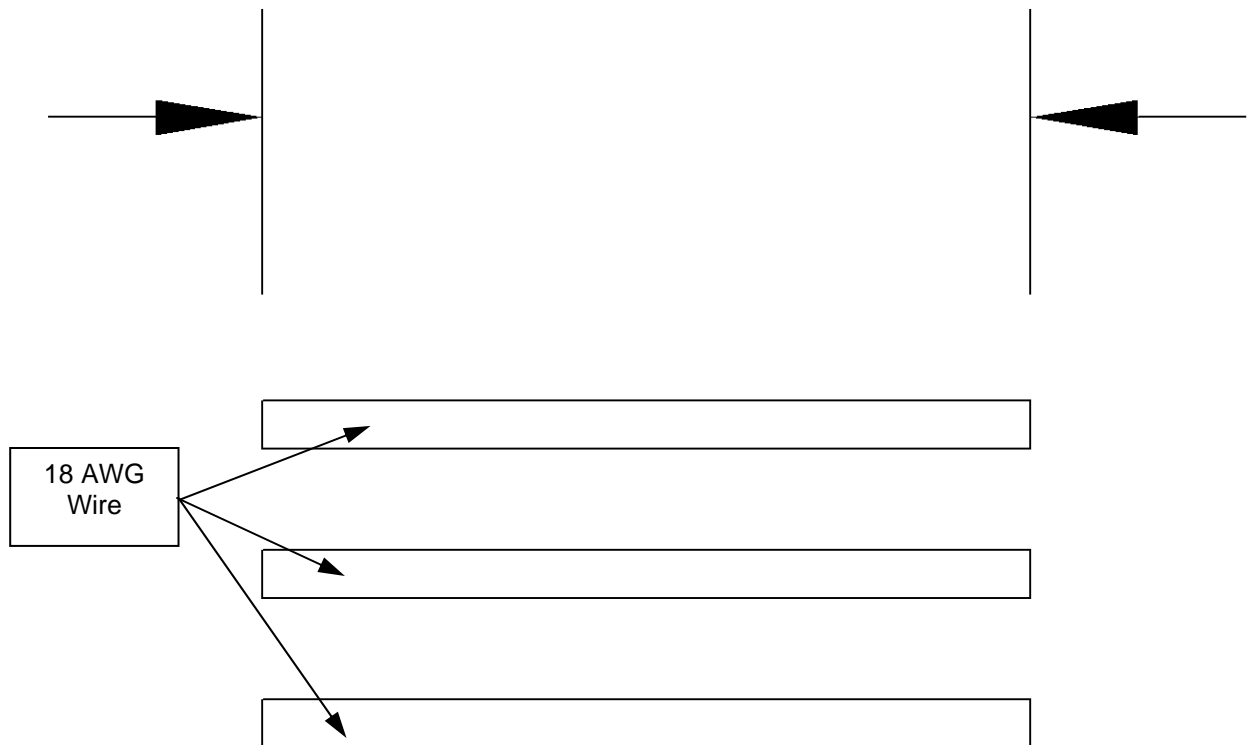

Figure 85
Step 4: Measure and cut (3) pieces of 18 AWG wire to a sufficient length to reach from the backplate on the Setback Control Junction Box Assembly to the Setback Control Protective Plate. This is shown in Figure 85.